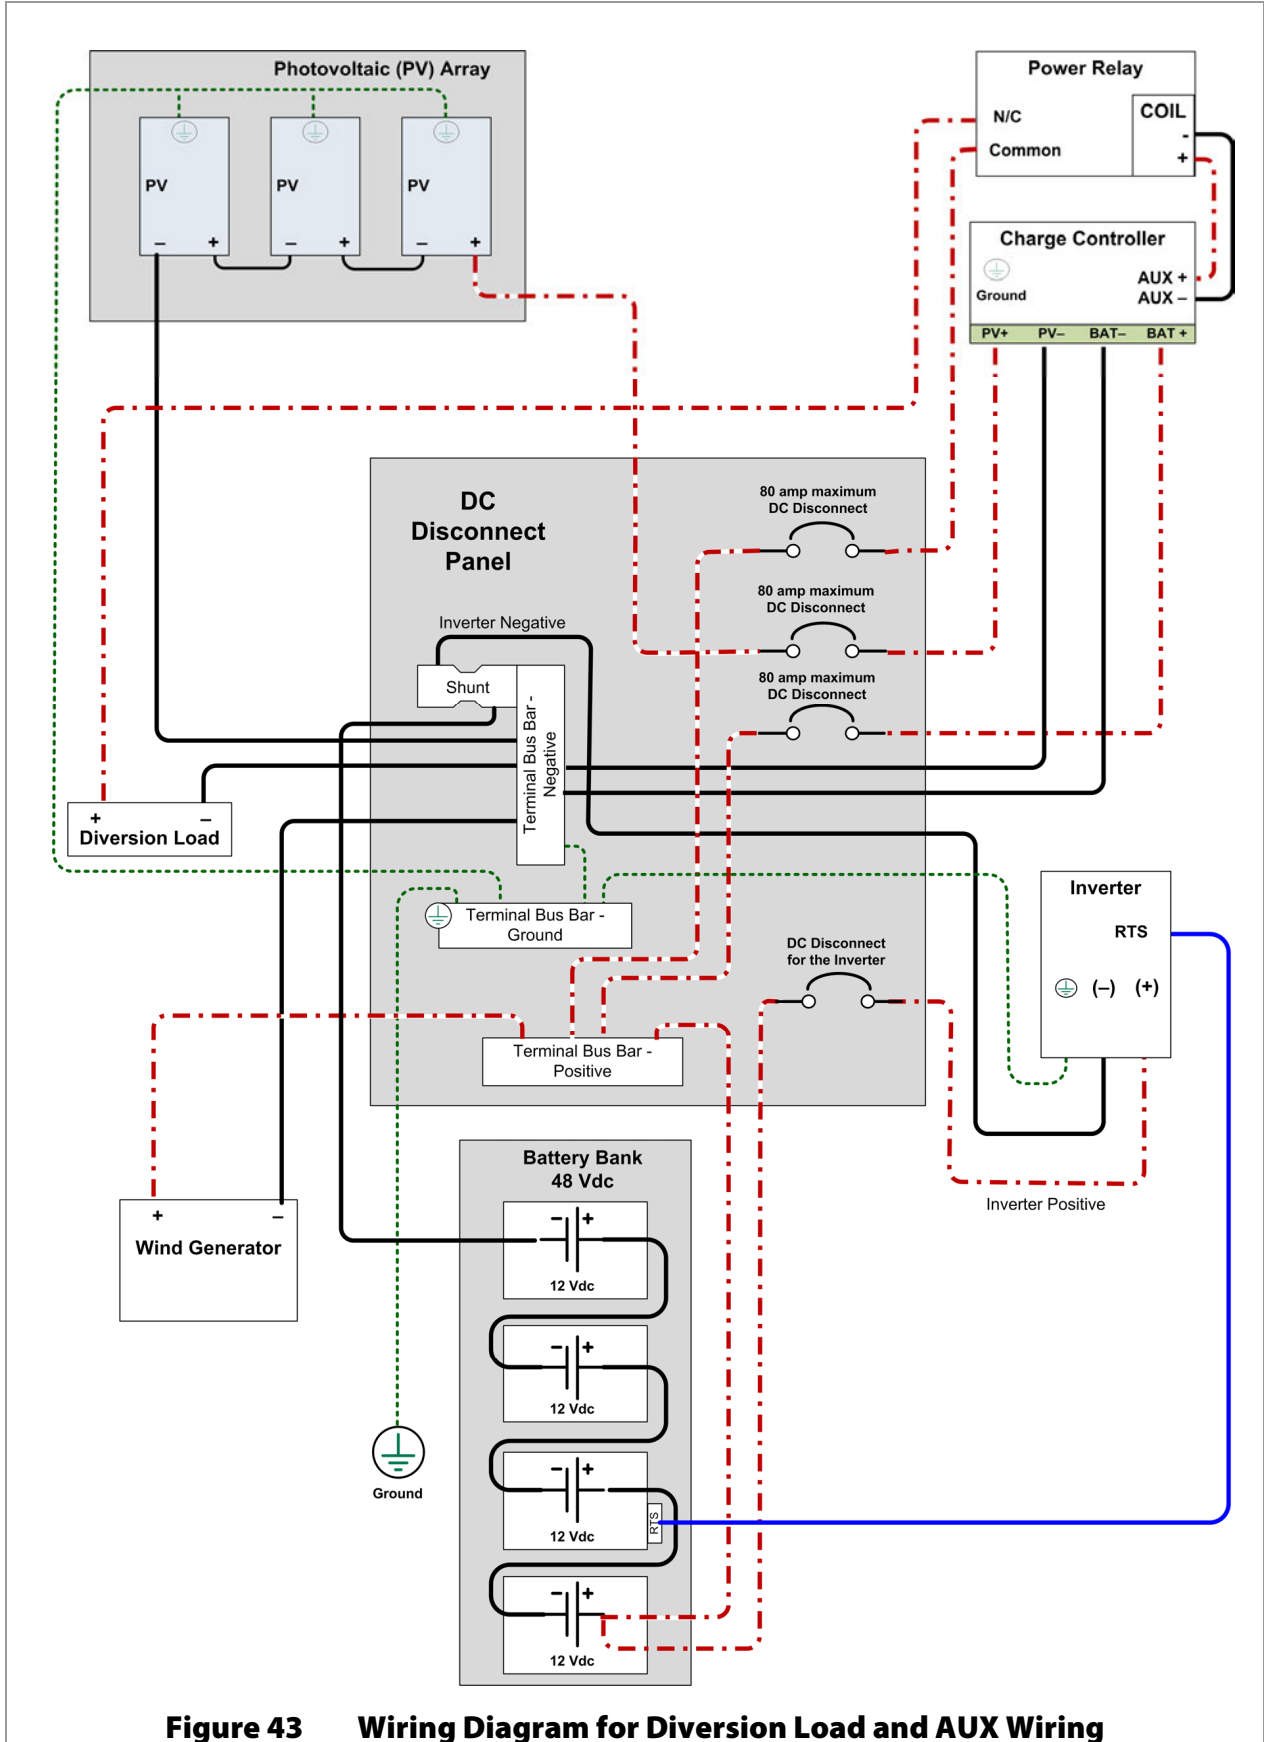

Figure 43 Wiring Diagram for Diversion Load and AUX Wiring
- See Figure 43, page 44, for an auxiliary setup wiring diagram example.